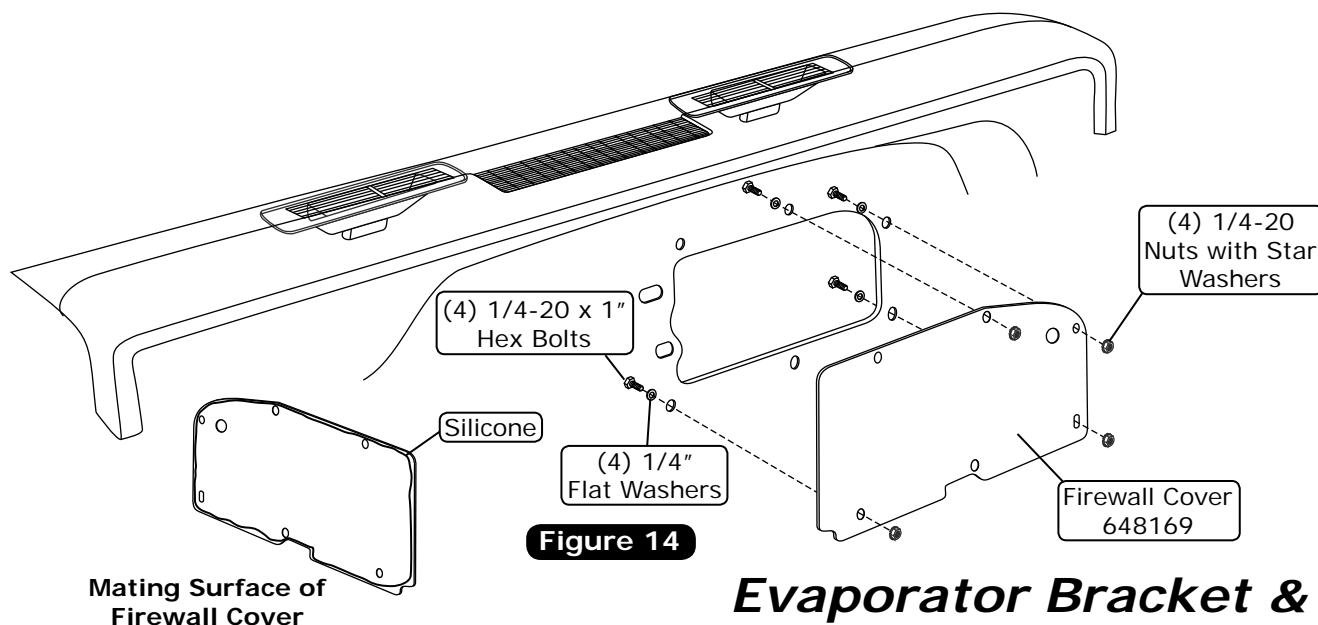

Figure 14
1. Apply a 1/4" bead of silicone around the mating surface of the firewall cover as shown in Figure 14, below.
2. From the passenger compartment, install the firewall cover onto the firewall. Secure the firewall cover to the firewall using (4) 1/4-20 x 1" hex bolts, (4) 1/4" flat washers and (4) 1/4-20 nuts with star washers as shown in Figure 14, below.